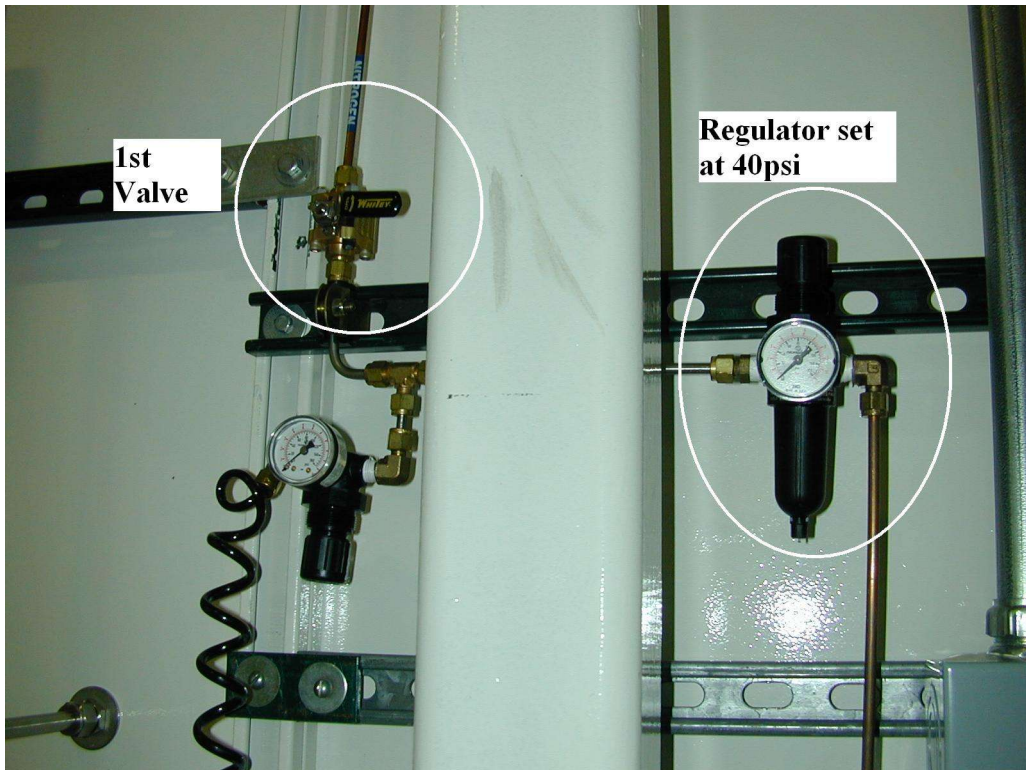

Figure 1- 1st Nitrogen Purge Valve and Regulator
1. Turn on N₂ purge valves in the chase behind the tool and make sure the regulator is set at 40psi. Refer to Fig. 1 and 2.
(See Fig. 1 & 2).